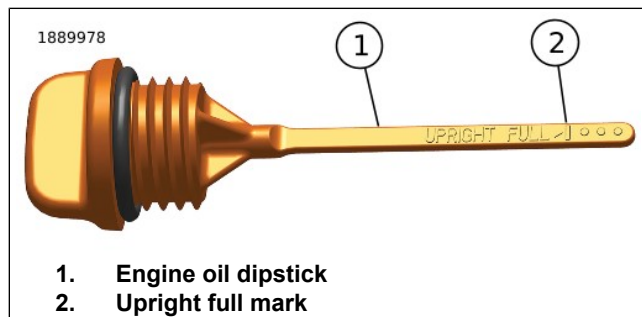

Figure 43. Engine Oil Dipstick (upright full mark)
- e. Figure 43 Oil level must register to the upright full mark (2).
16. See Figure 43. Add only enough oil to bring the level to the add quart mark.